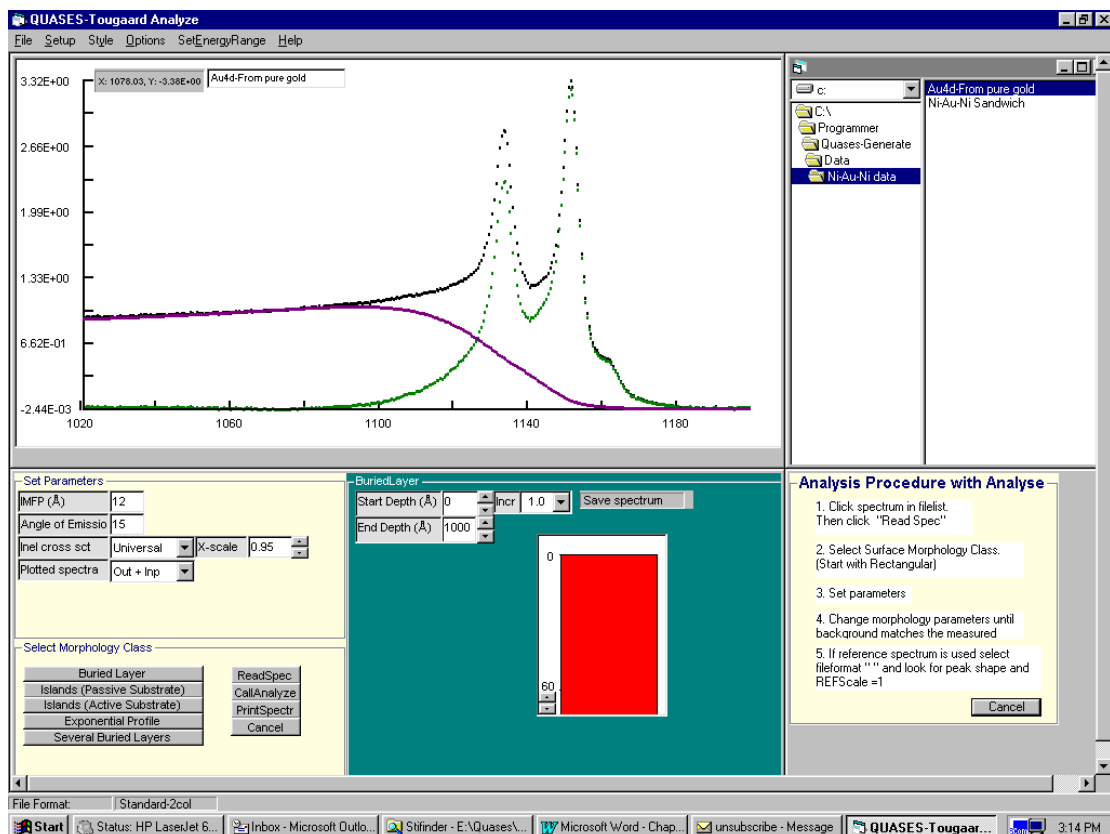

Figure 5.19
4. Click **Buried Layer**. See fig. 5.19